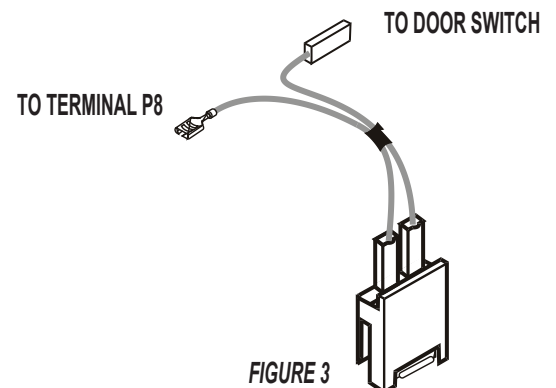

FIGURE 3
7. Install the new fuse with the new tan wires attached. Plug the left wire into terminal P8 on the Molex housing, and plug the housing into CON2 on the control board. Plug the right wire into the door switch. See *Figure 3*.